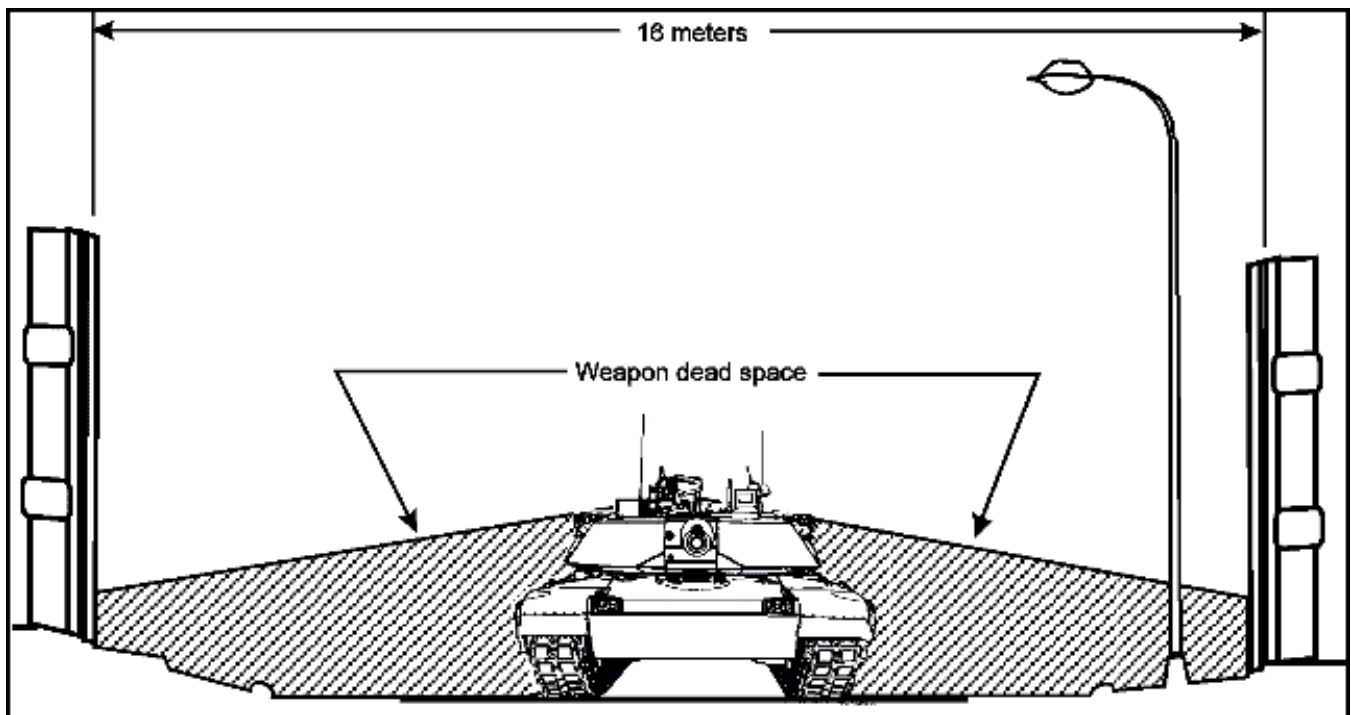

Figure I-2. Tank weapon dead space at street level.
- When buttoned up, the tank crew has limited visibility to the sides and rear and no visibility to the top. Figures I-2 and I-3 illustrate the dead space associated with tank operations in an urban environment.